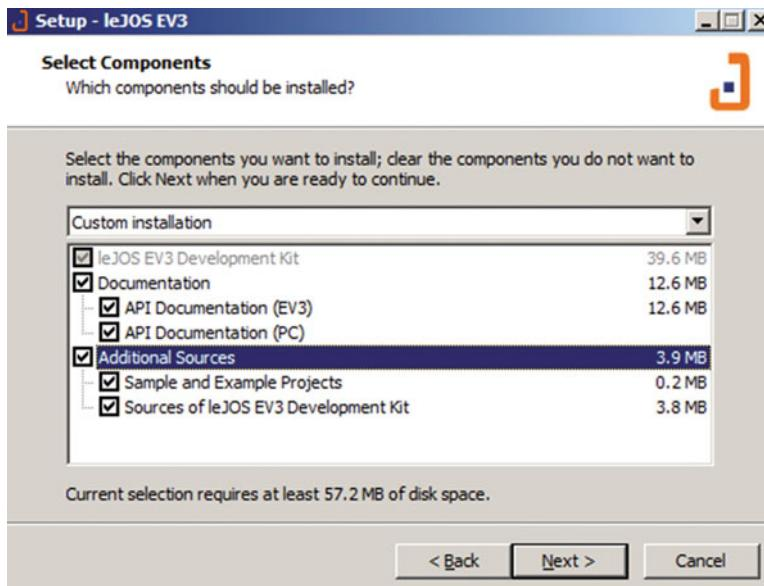

Figure 1-12. Choosing ALL components of leJOS
5. Make sure that you have installed the JDK and set the path and JAVA_HOME to the installation directory of your JDK. You can click *browse* to select the path to which you want to install. In this example, I chose the destination folder C:\Program Files (x86)\leJOS EV3. After you set up the installation folder, click *Next* button and you will see the screen shown in Figure 1-12.